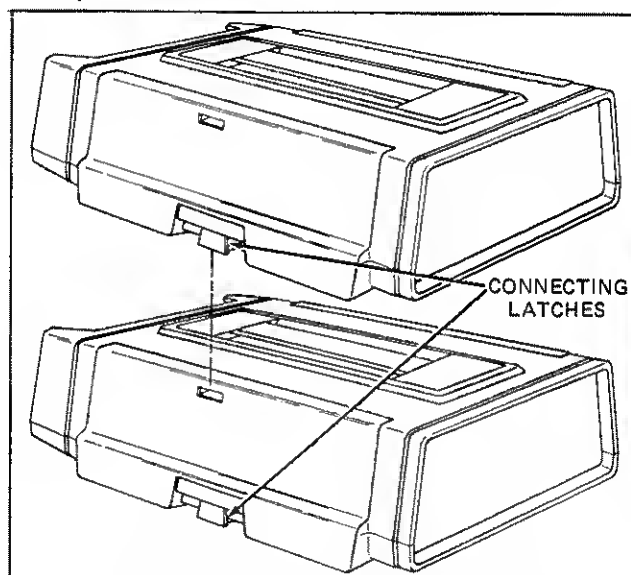

Figure 2-1. Instrument Case Mating
1. For the top instrument, pull out latches found on either side (refer to Figure 2-1).